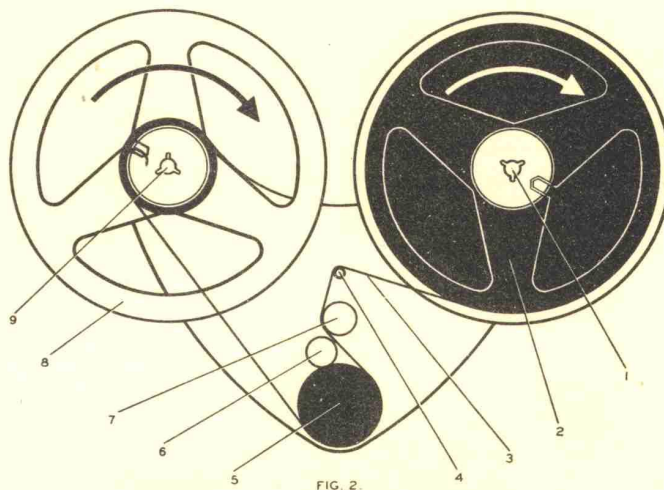

FIG. 2
5. THREADING - RECORD AND REPLAY (Fig. 2.)
- (i) Place full reel on supply spindle (1) so that the tape (3) will unwind from the bottom of the reel in a clockwise direction. Place the clutch loader in position over the take-up spindle.
- (ii) Thread tape over guide (4) and record/replay head (7) around capstan (5) and across to empty take-up reel (8) so that the tape winds on in a clockwise direction.
As an alternative the tape may be threaded directly from the supply reel to the take-up reel, and then pulled down in a half-loop towards the capstan. The tape may now be slipped into the threaded path shown in Fig.2.